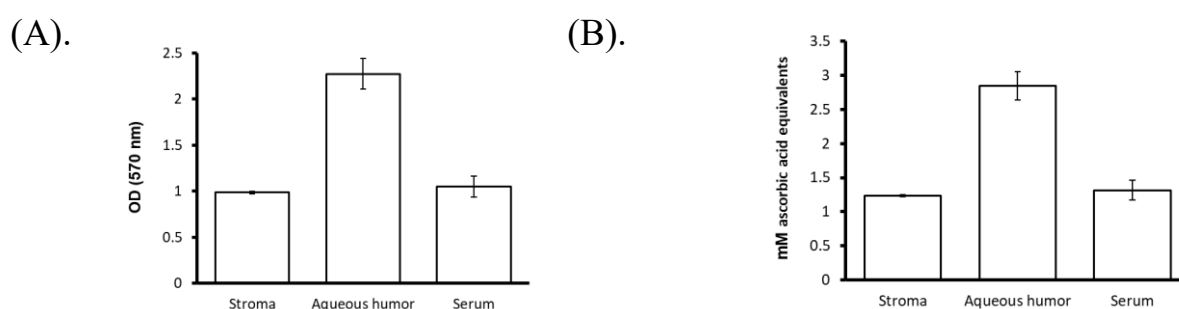

Figure 2. Example of TAC quantization scaling.
2. Calculate the ascorbic acid equivalents of the TAC of the sample by subtracting the background value from the average absorbance value and comparing it with the standard curve (Figure 2).